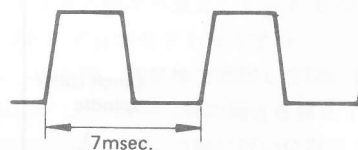

Fig. 2-18 Waveform at TP1
4. During fast forward or rewind mode, adjust R150(see Fig. 2-9) so that wavelength displayed on the oscilloscope becomes 7msec. (Fig. 2-18). Adjustment should be satisfied at any tape winding position.
3. TP. 1の波形の波長が7m secになるようにR150(図2-9参照)を調整する……図2-18